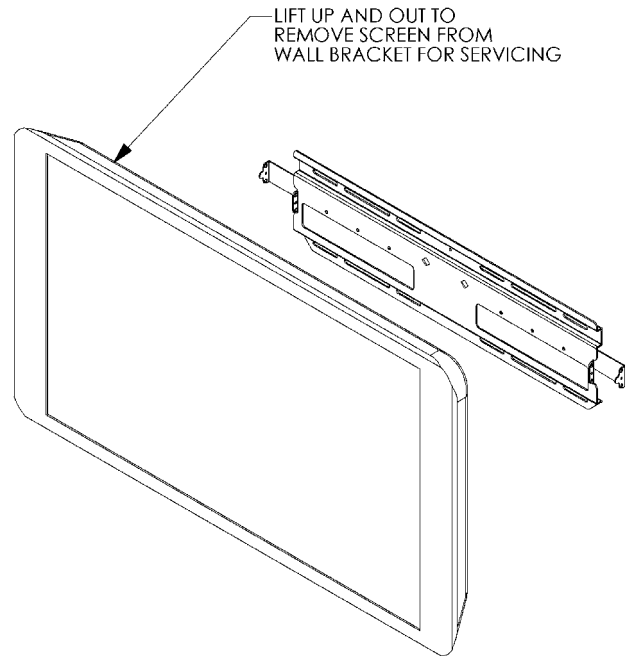

Figure 11. Remove Display
1. If applicable, remove the self tapping screws and/or padlocks from both sides of the wall plate. This hardware provides security (see Figure 11).
3. With an assistant, lift the display up and off the wall plate (see Figure 11) to remove the display from the wall.